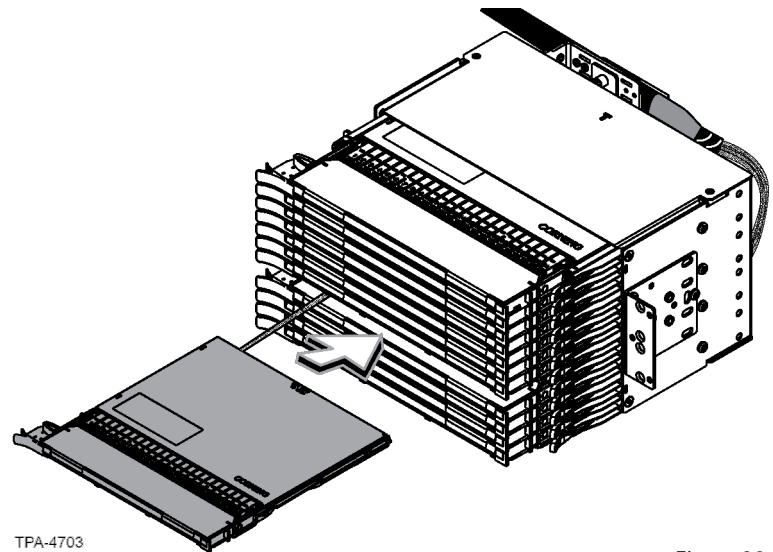

Figure 30
Step 30: Insert cassette into the housing, starting at the top of the housing (Figure 30).